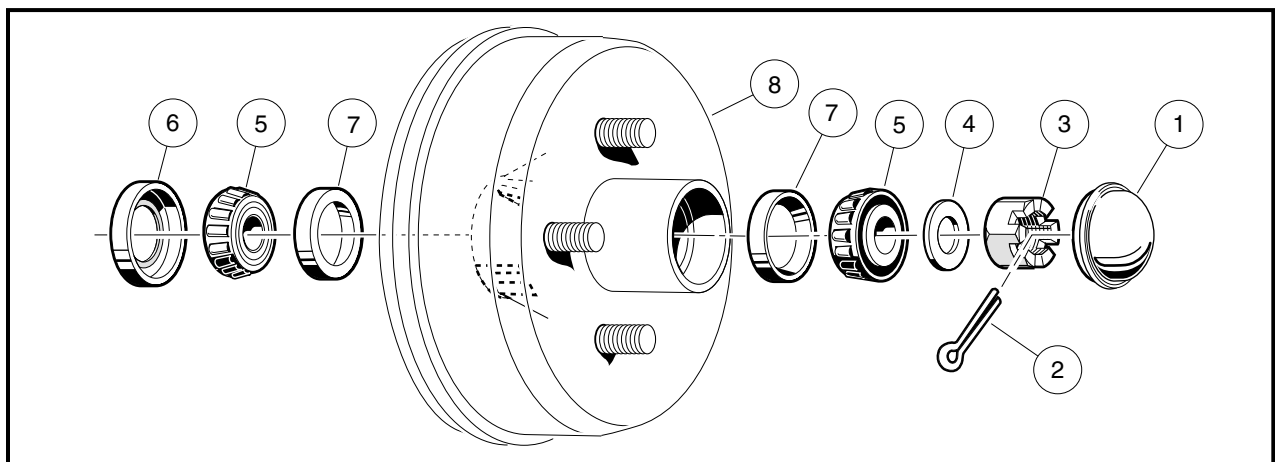

Figure 6a-4 Front Spindle and Brake Drum Assembly
- 4.2. Remove the cotter pin (2) (**Figure 6a-4, Page 6a-9**).
- 4.3. Remove the castle nut (3), large flat washer (4), wheel bearing (5) and drum (8) from spindle (**Figure 6a-4, Page 6a-9**).